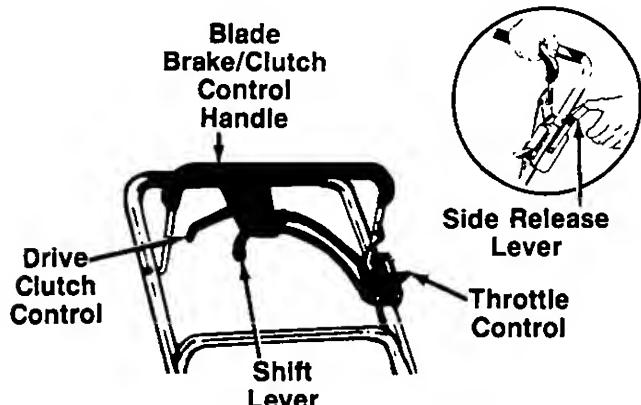

FIGURE 18.
To engage the blade, pull the side release lever away from the unit. See figure 18. Pull the blade brake/clutch control handle against the upper handle. Release side lever.
Squeezing the drive clutch control engages the drive mechanism to the rear wheels. Releasing the clutch control stops the rear wheels from driving. Release the drive clutch control to slow down when negotiating an obstacle, making a turn or stopping. See figure 18.
The six speed shift lever is located on the drive clutch control housing on the upper handle. See figure 18. This lever is used to select the operating speed of the mower. Release the drive clutch control when changing speeds.
- To engage the blade, pull the side release lever away from the unit. Pull the blade brake/clutch control handle down against the upper handle. Release the side lever. See figure 18.